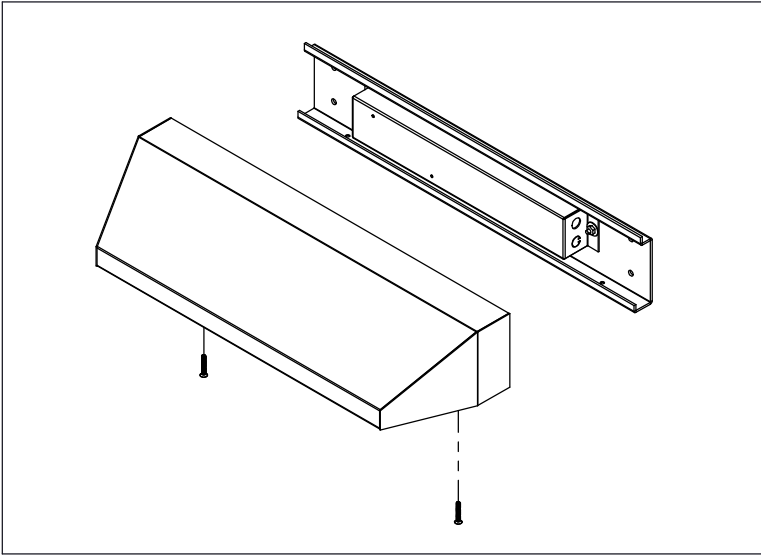

Figure 1
1. Remove housing screws, then remove Mounting Plate from Housing (Fig. 1).